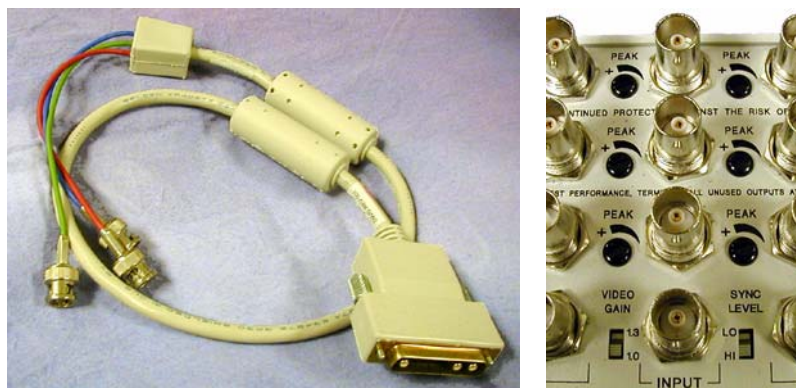
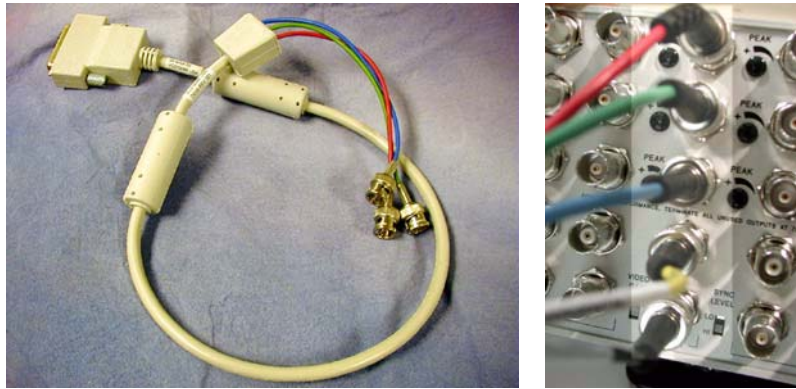

Figure 3-5 Octane Kit - Cable (left) and Splitter (right)
Figure 3-6 HP Kit - Cable 2403438 & Adapter (left) and Splitter (right)
- 4.) Connect the appropriate supplied video cable to the Octane or HP computer (Figure 3-5 and Figure 3-6, respectively) video connector and then route the cable to the 4-way video splitter. Each kit has the required cable for the connection between the computer and splitter input. Secure the cable with supplied tie wraps.